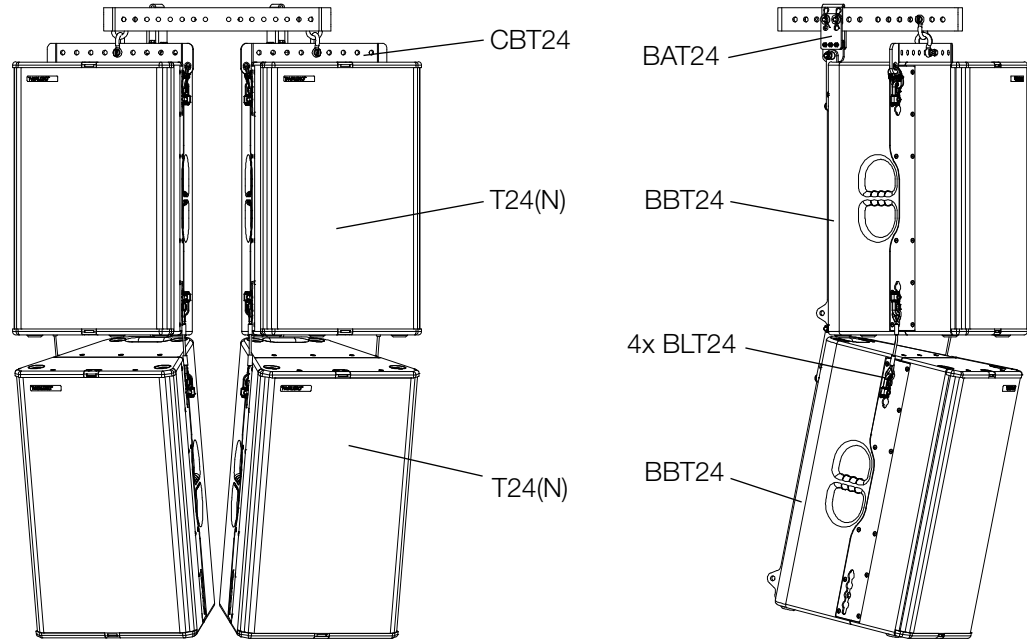

Figure 3.17 - Standard variant
The standard variant has established itself in which four T24(N) loudspeakers are used with two CBT24 cradle bar for flying, four BBT24 brackets, two BAT24 adapter and four BLT24 Boxlink connector cables. (See figure 3.17)